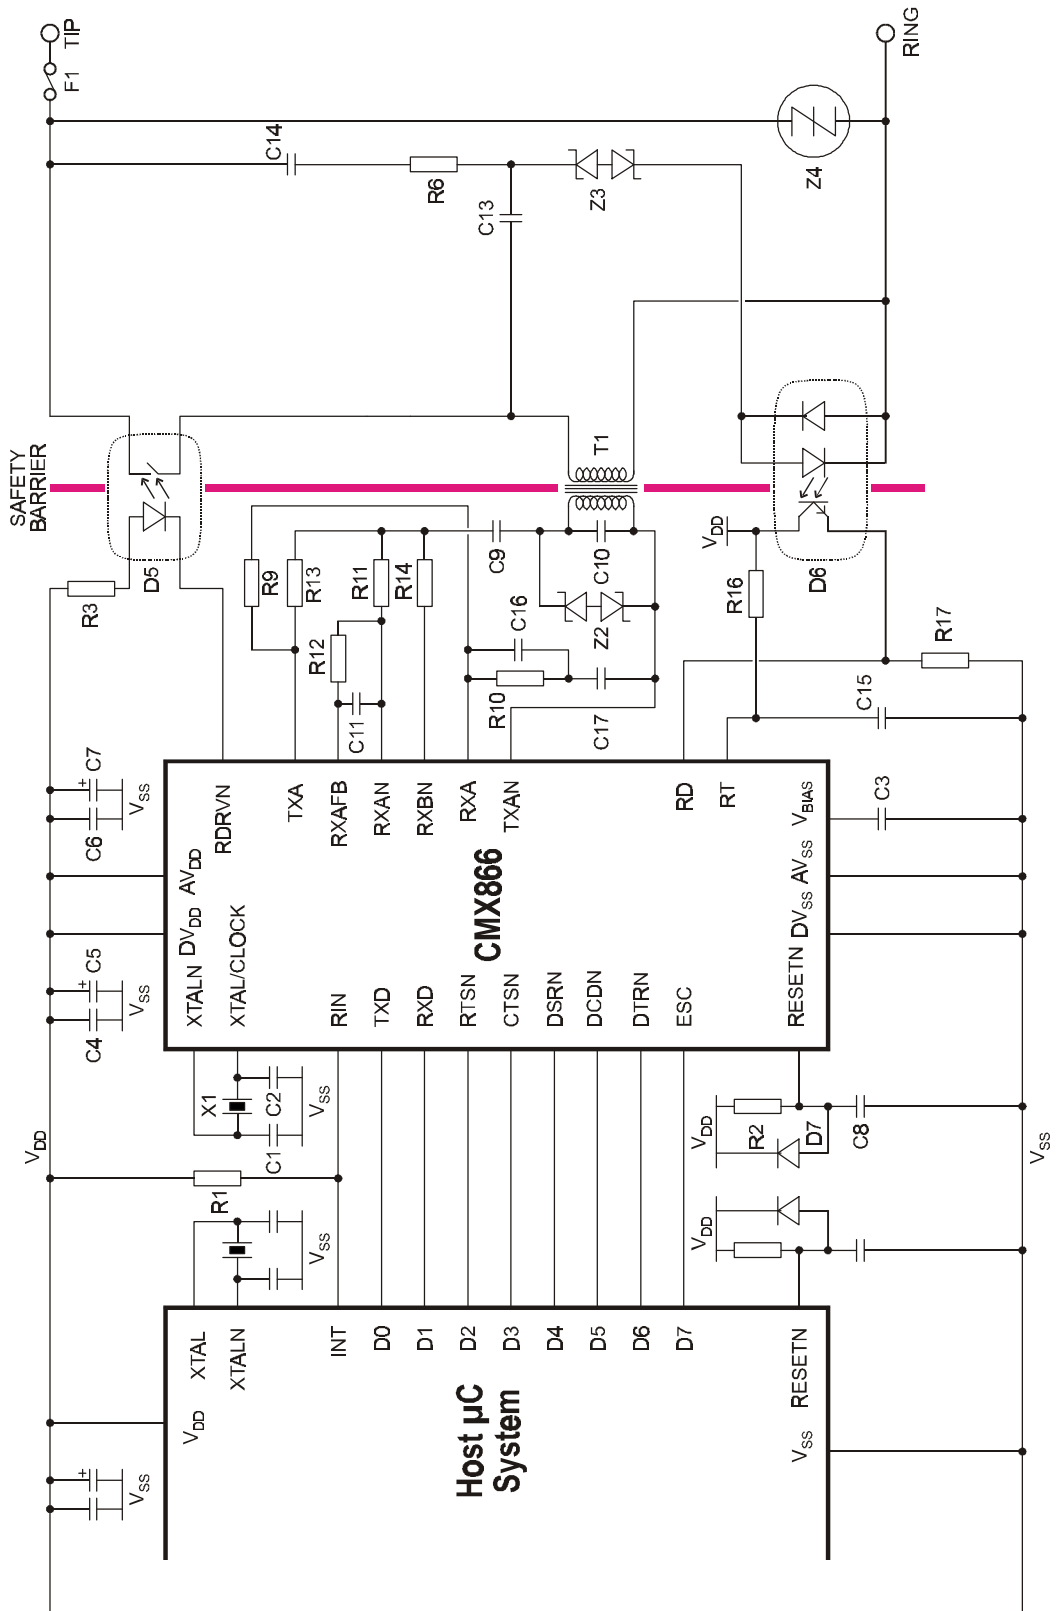
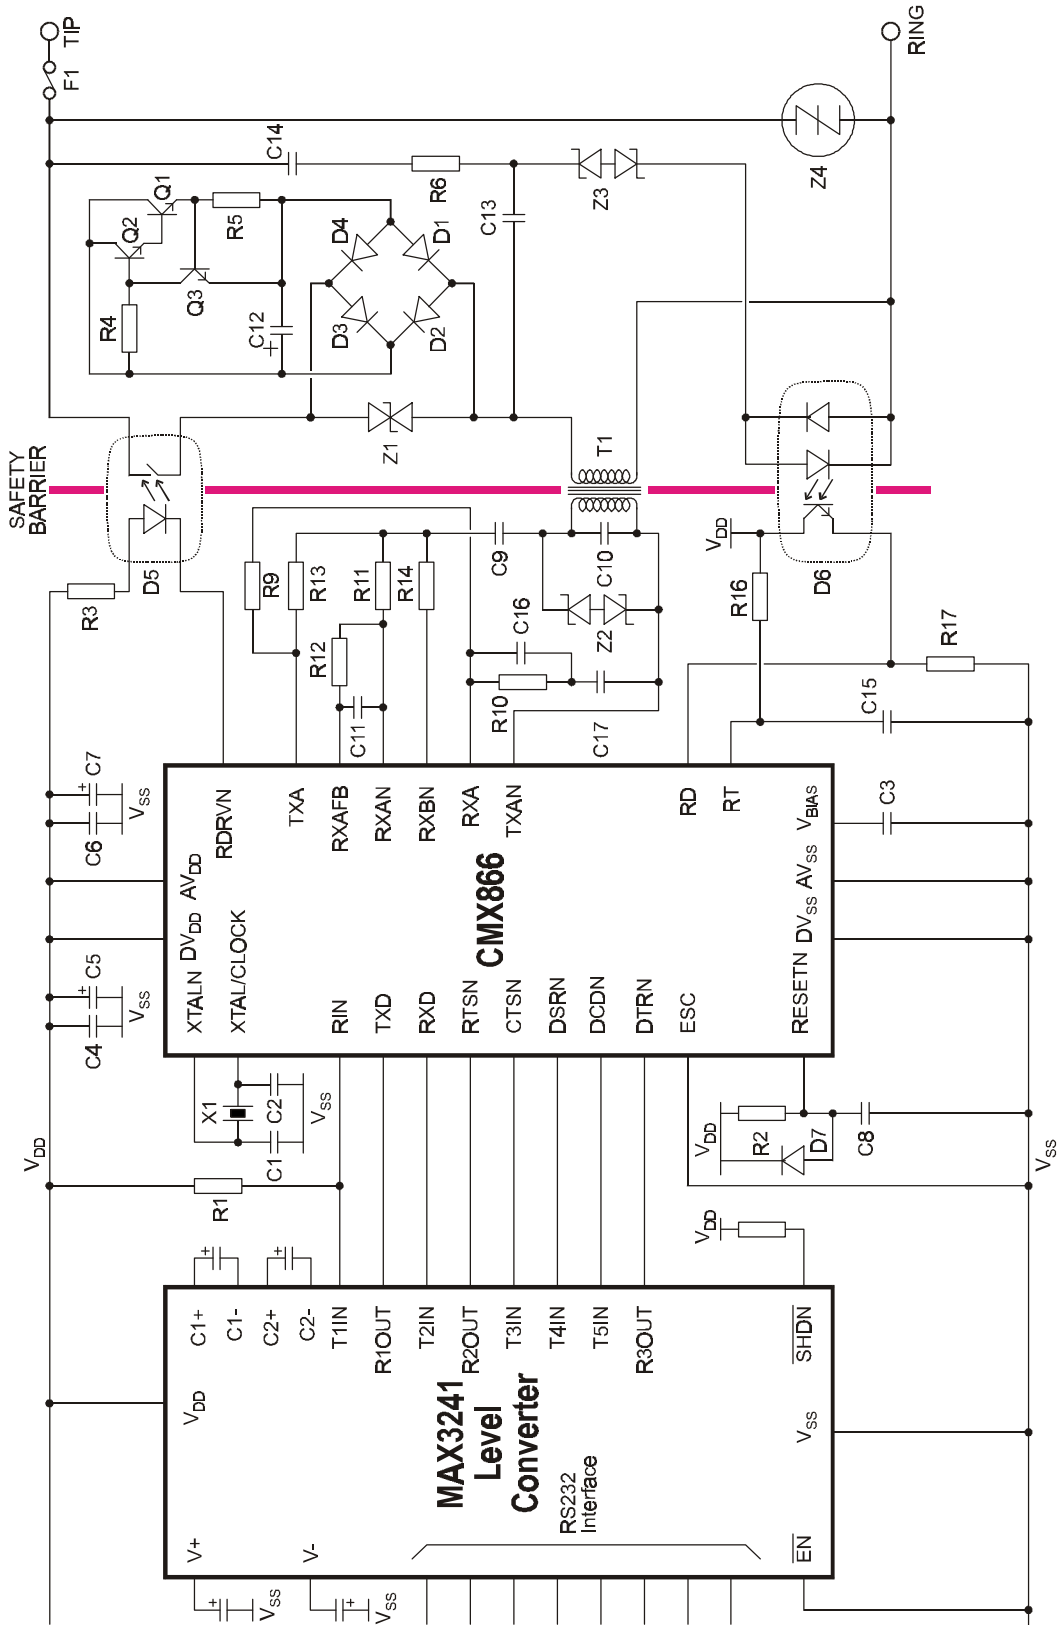

Figure 11 Host µC Example (FCC68)
Figure 12 RS232 Level Converter Example (CTR21)
The CMX866 can be interfaced to an external host  $\mu\text{C}$ , as shown in Figure 11, or to an RS232 computer port (via a level shifter IC, to generate  $\pm 6\text{V}$ ), as shown in Figure 12. These are complete phone line interface circuits for operation at  $V_{\text{DD}} = 5.0\text{V}$ . Figure 12 includes the additional gyrator components which may be required for CTR21 compliance.
**Figures 11 and 12 - Component List:**